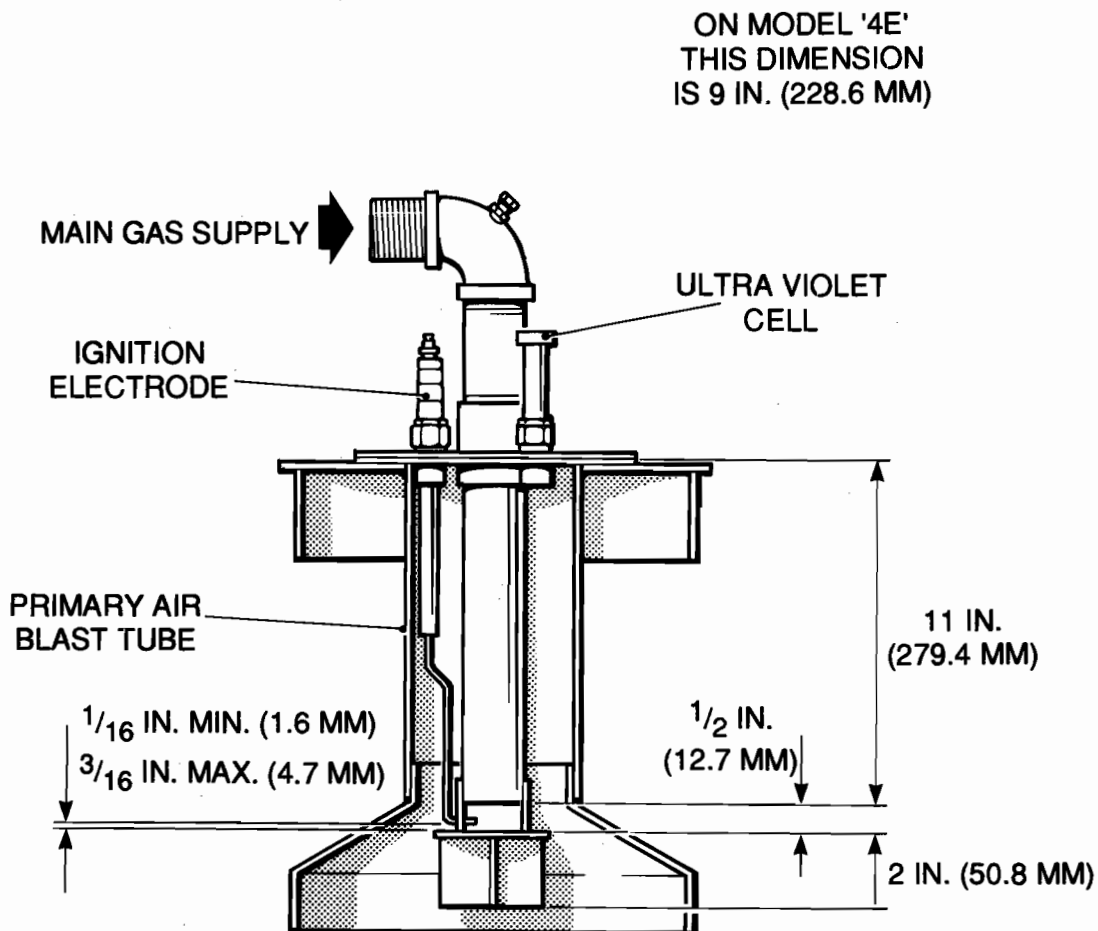

FIG. 7 BURNER ELECTRODE SETTINGS
- (1) Examine the probes in the water column and the boiler shell. Replace any damaged probe.
- (2) Remove the burner and check that the electrodes have not been damaged and that their setting corresponds to the appropriate drawing (refer to Fig. 7). If the burner is fitted with an ultra-violet scanner, remove and check for damage.
- (3) Check that the burner is the correct type for use with the gas being supplied.
- (4) Ensure that all wiring connections are correct and that all terminal screws are tight